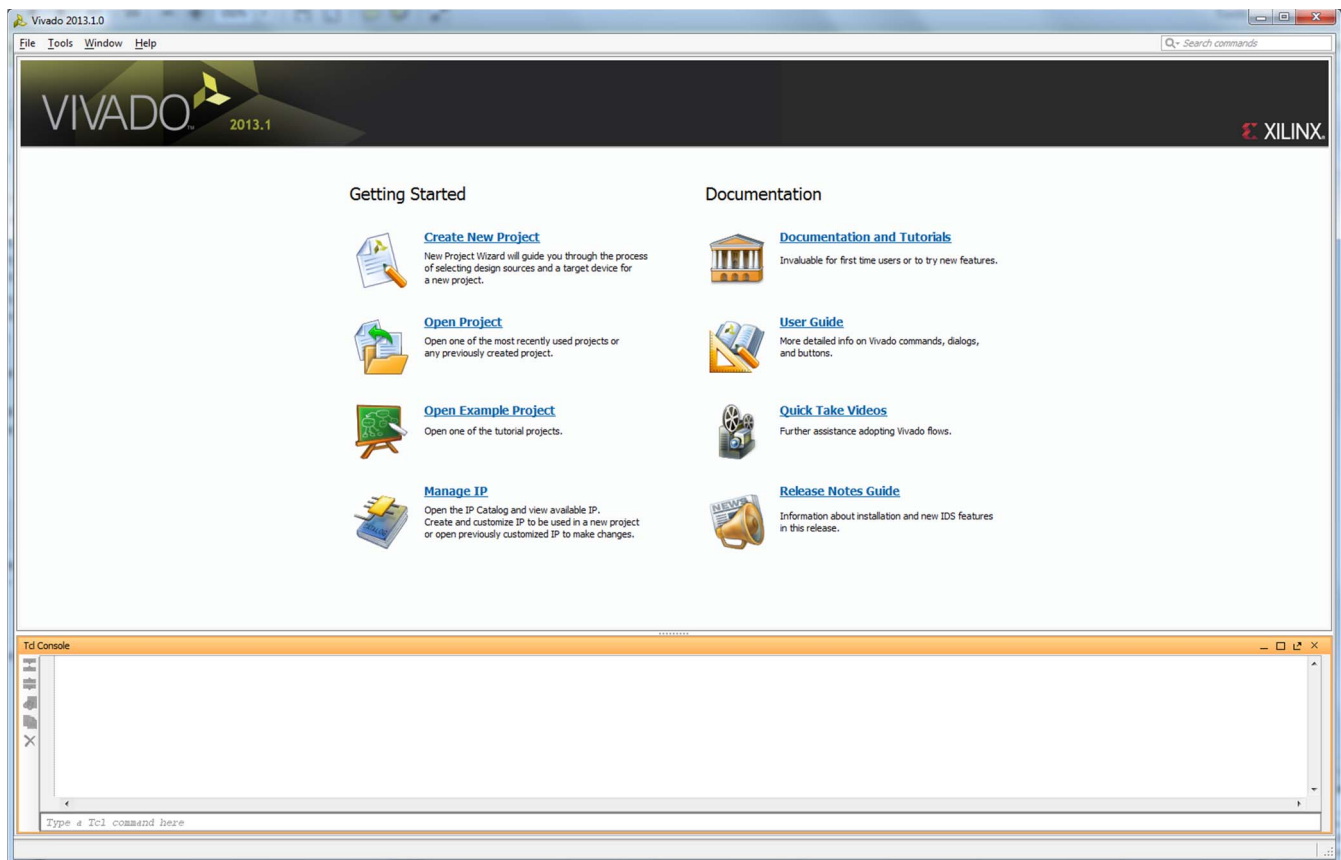
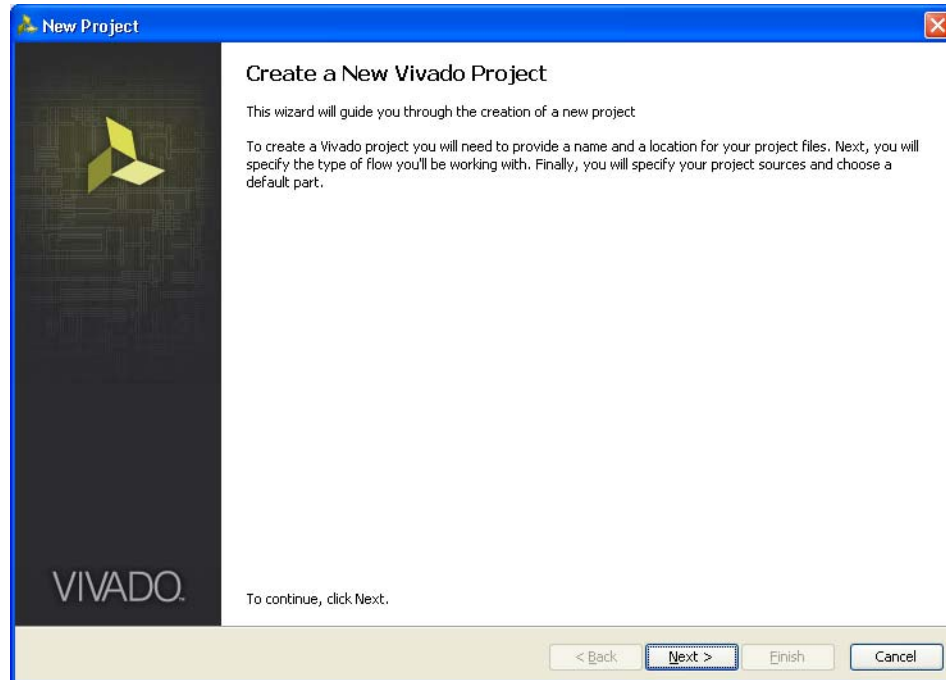

Figure 3-1: Vivado Design Suite
Figure 3-2: Create a New Vivado Tool Project
1. Start the Vivado Design Suite (see Figure 3-1).
2. To create a new project, click the **Create New Project** option shown in Figure 3-1 to open the page as shown in Figure 3-2.